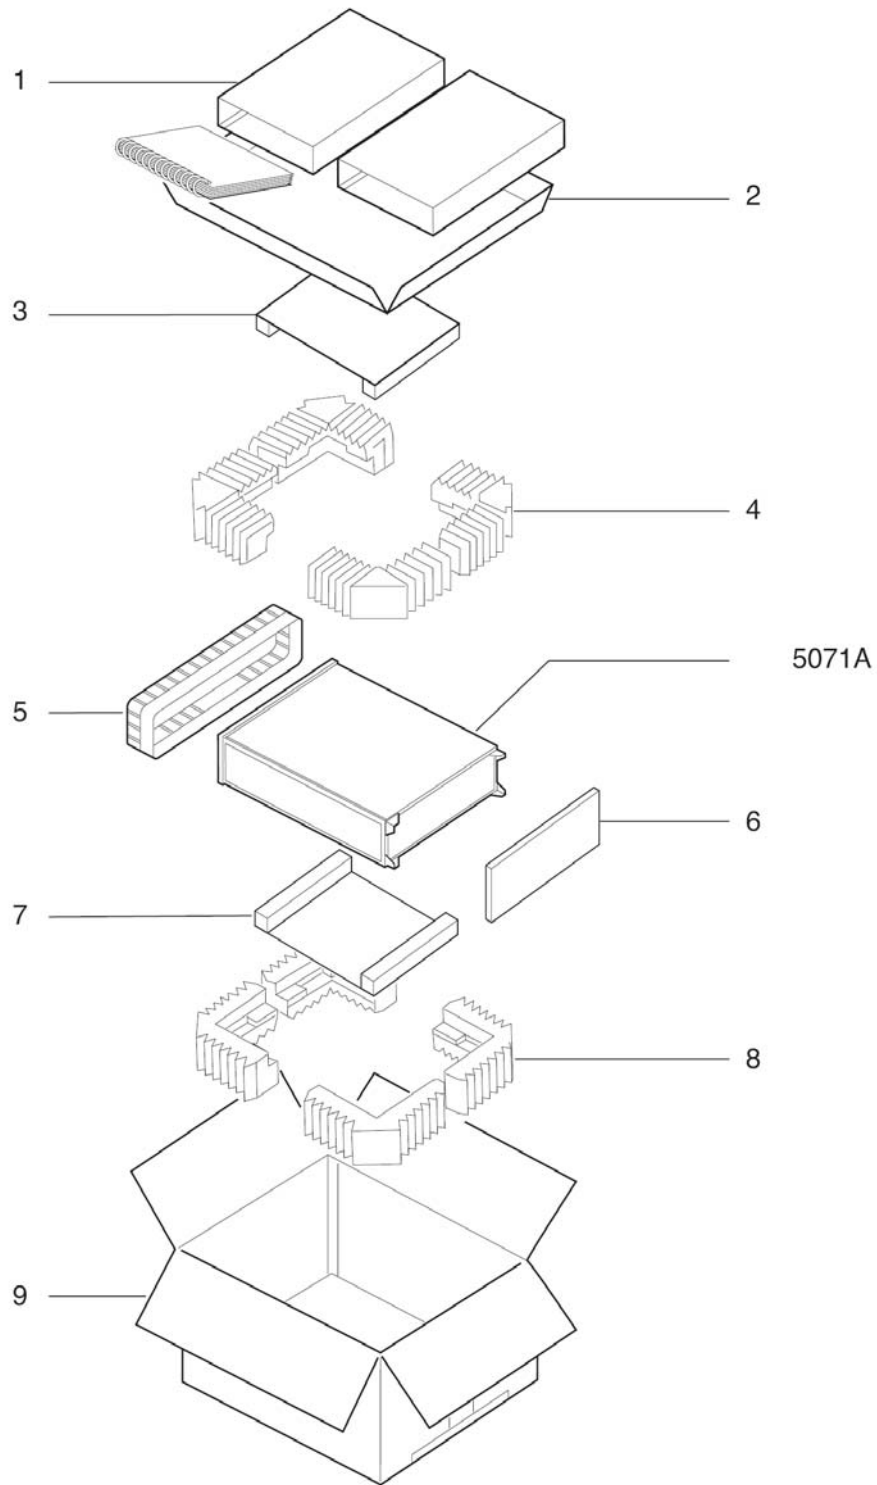

Figure 7-2. 5071A Packing Exploded View
- 1 Pack the instrument as shown in Figure 7-2, on the next page, using the instructions provided with the packing kit. (You do not need to return the manual and power cord.):